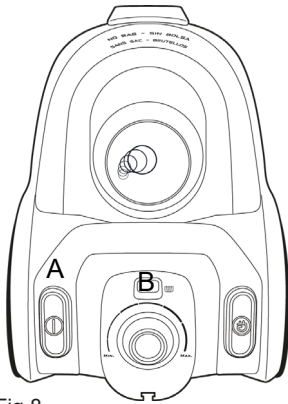

Fig 8
4. Set the required vacuum power by rotating - / + **(B)** on the vacuum power setting (Fig. 8).